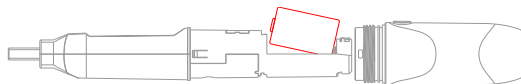

Fig.23
Step 4. Remove the old battery and Install the new one. See Fig. 23.